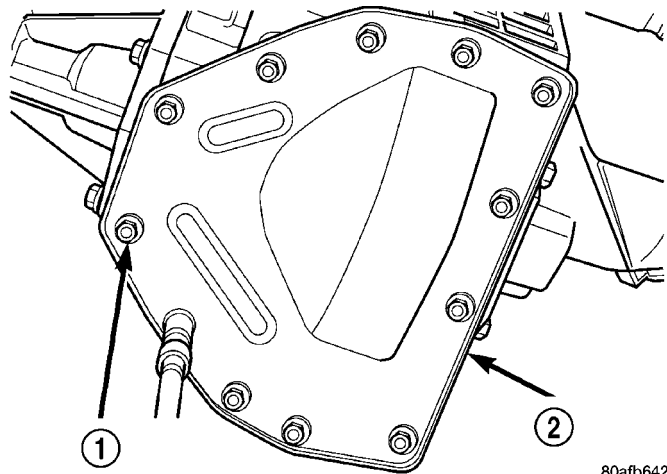

Fig. 202 Differential Cover Bolts
(18) Install and torque cover-to-case bolts to 19 N·m (165 in. lbs.) (Fig. 202).